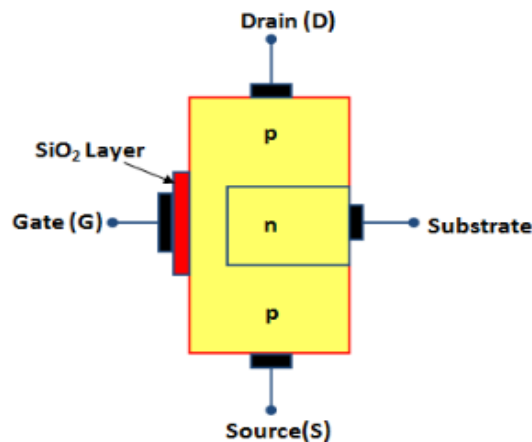

Fig. 4.19 Construction of p-channel D-MOSFET
- Fig.4.19 shows the various parts of p-channel D-MOSFET.